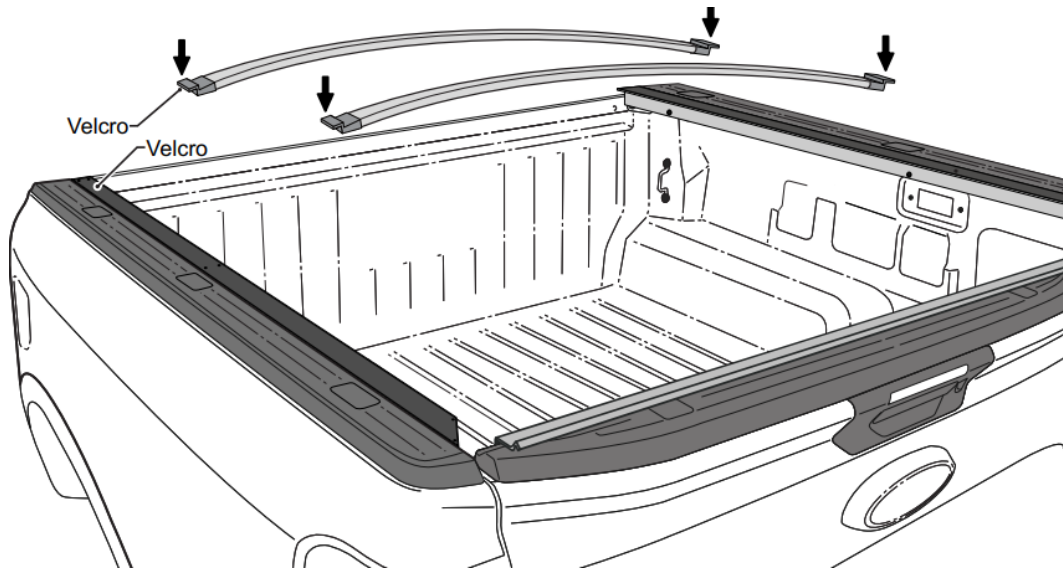

Figure 7
- Velcro on both ends of the Support Bars makes it easy to adjust the distance between them along the velcro surface on the Side Rail and . Adjust them as required. *See Figure 7*